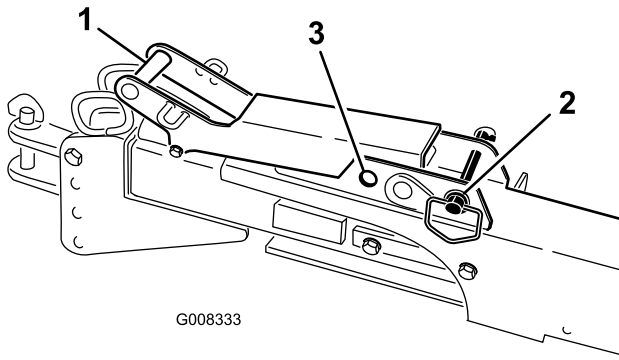

Figure 21
- Make sure the latch handle pin is in the unlocked (rear) position (Figure 21).
Note: Lock the hitch assembly in the extended position by moving the latch handle pin to the forward (locked) position (Figure 21).